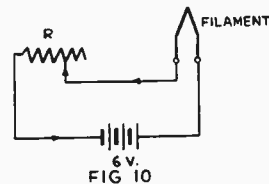

Fig. 10. A rheostat in series with a tube.
19. Rheostats: As stated previously resistance in a circuit opposes the flow of electric current. There is a certain amount of resistance in every electric circuit due to the connecting wires, etc. In some cases extra resistance is added intentionally to reduce the current flowing. An example of this is seen in the use of rheostats, or adjustable resistances, in the filament circuits of ordinary vacuum tubes in radio receiving sets. Here the current from a storage battery flows through the filament of the tube and heats it to incandescence. The amount of current flowing is regulated by connecting a variable resistance R in series with the filament, Fig. 10.